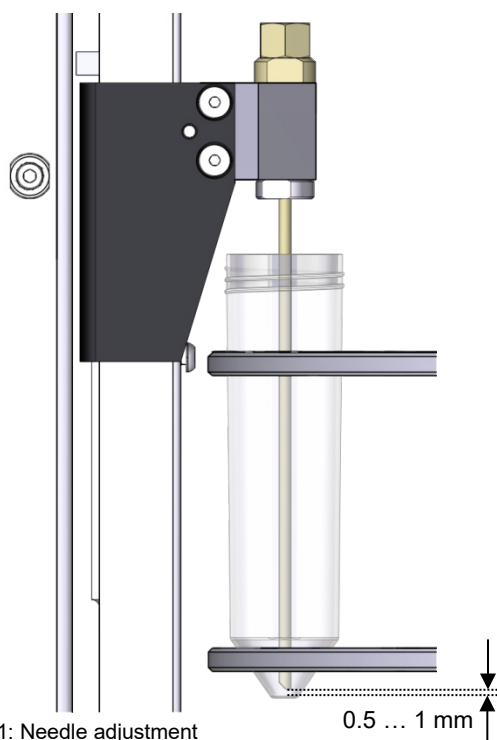

Fig. 11: Needle adjustment
8. Click «Start» to lower the needle to the chosen target position. For the exact positioning of the needle as shown in «Fig. 11», use the arrow up and down buttons   to adjust the needle position stepwise.